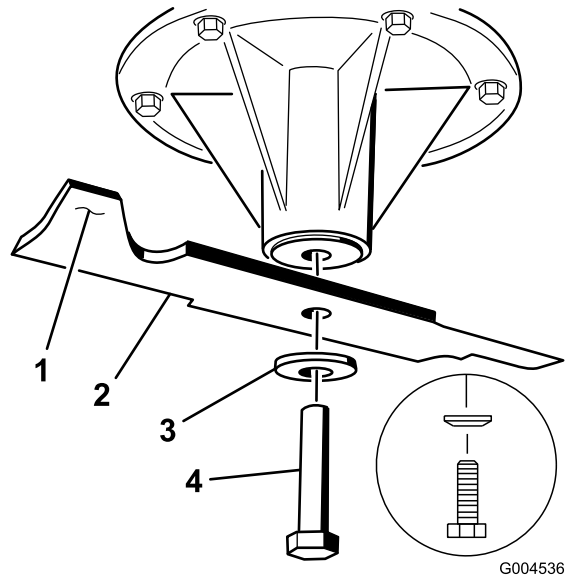

Figure 57
2. For 48 inch mower decks, remove the blade bolt, curved washer, and blade from the spindle shaft (Figure 57).
1. Install the blade onto the spindle shaft (Figure 57).
Important: The sail part of the blade must be pointing upward, toward the inside of the mower to ensure proper cutting (Figure 57).
2. For 48 inch mower decks, install the blade, curved washer, and blade bolt (Figure 57).
3. If the blade stays in a horizontal position, the blade is balanced and can be used. If the blade is not balanced, file some metal off the end of the sail area only (Figure 57)